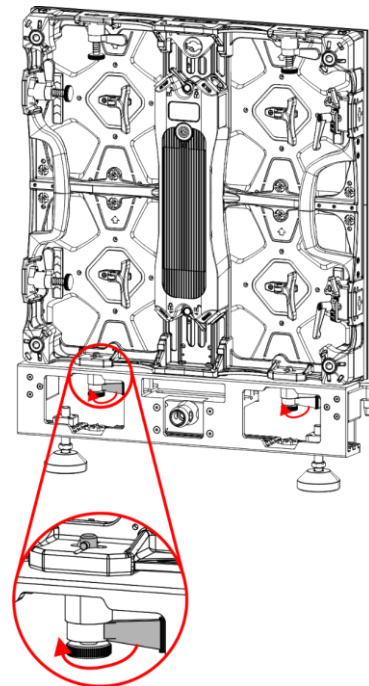

Fig. 45
- 06) Turn the **lever (C)** clockwise to tighten it to the LED screen, as shown in Fig. 45 and 46.
- 07) Repeat steps 2–6 for the right **locking mechanism (03)** of the rigging bar.